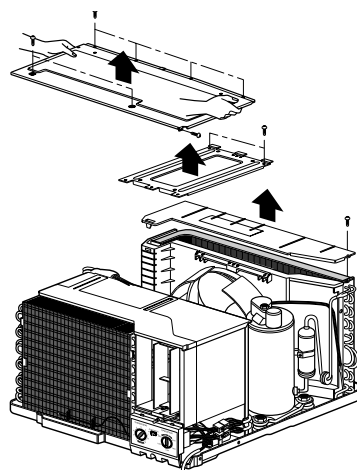

Figure 4
4. Remove the covers and the brace. (See figure 4)